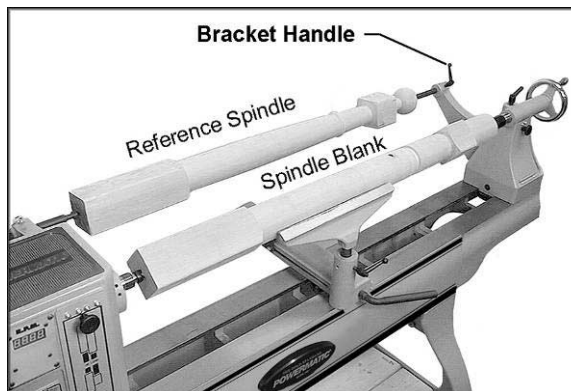

Figure 24
3. Install the *rear* comparator center in the tailstock bracket and tighten the bracket handle. See Figure 24.
5. Mount the reference spindle between the comparator centers, as shown in Figure 24.